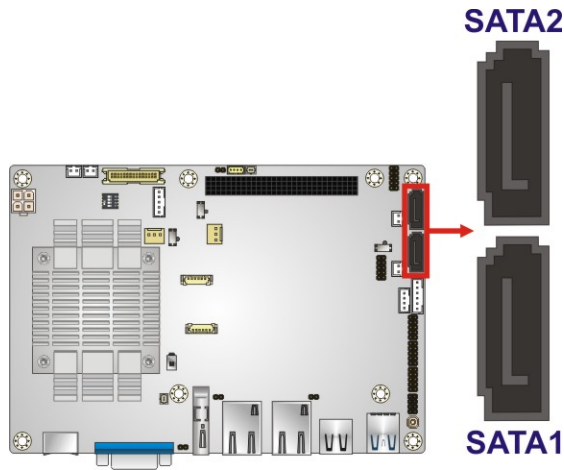

Figure 3-24: SATA 3Gb/s Drive Connector Locations
- CN Location:** See **Figure 3-24**